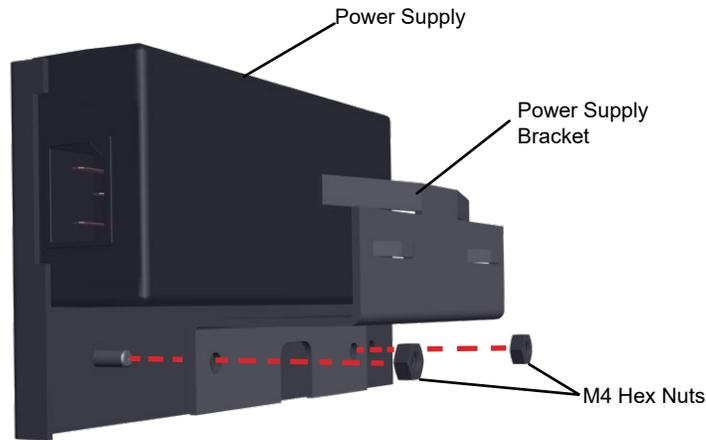

Figure 3. Reinstall bracket and power supply on long rack ear
3. Attach the power supply bracket to the longer (R) rack ear with hex nuts and insert the power supply with power cord outlet located to the back (Figure 3).